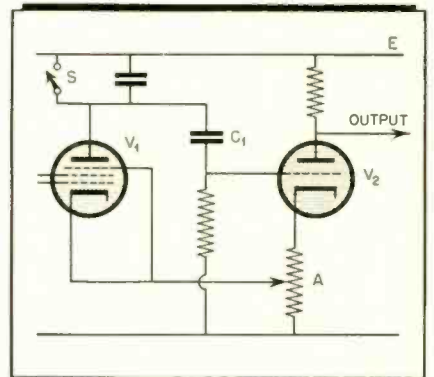

Figure 10
*g.* Bedford's circuit employs a charging pentode  $V_1$  in Fig. 10. As the voltage falls on the plate of  $V_1$ , the grid of  $V_2$  and point  $A$  will also fall in